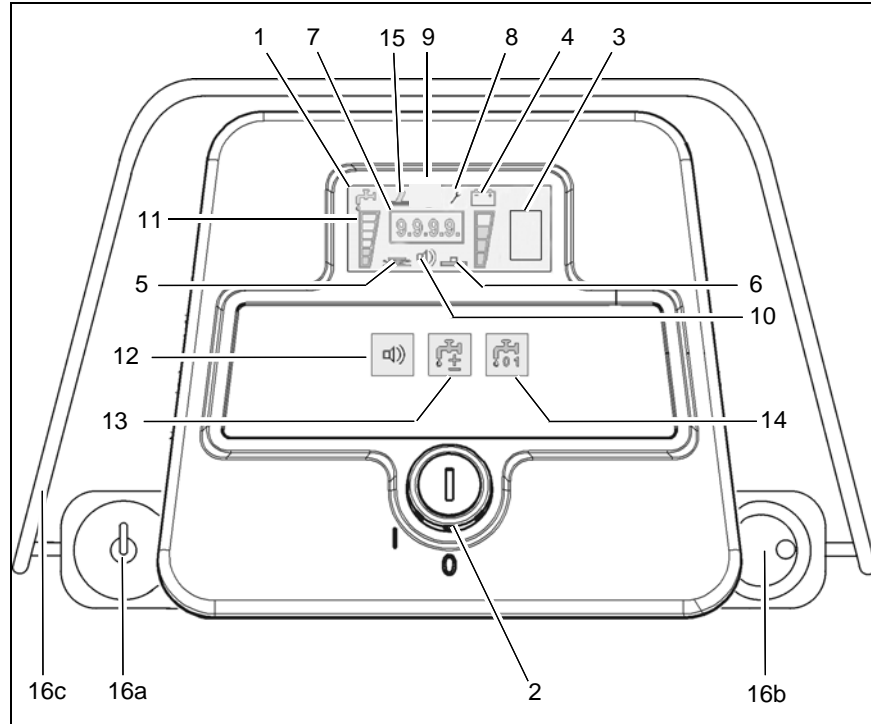

Fig.4
3. Switch on solution supply by means of tip-switch (Fig. 4/14).
4. Adjust solution amount by means of tip-switch (Fig. 4/13). Lower brush deck via pedal (Fig. 3/8). Solution supply and brush deck starts automatically.
5. Use the speed control knob (Fig. 4/16b) to adjust the work speed. Use the direction switch (Fig. 4/16a) to select forward or reverse. Pull the bail handle (Fig. 4/16c) to start moving.
Display (Fig. 4/1)
Battery charge indication (Fig. 4/3)
LDS indicator (Fig. 4/4)
Symbol brush drive (Fig. 4/5)
Symbol suction turbine drive (Fig. 4/6)
Hourmeter (Fig. 4/7)
Service indicator (Fig. 4/8)
free (Fig. 4/9)
(Fig. 4/10)
Solution dosage symbol (Fig. 4/11)
Silence Kit tip-switch (optional) (Fig. 4/12)
Solution dosage tip-switch (Fig. 4/13)
(Fig. 4/14)
free (Fig. 4/15)
Drive direction control with speed control knob/bail handle (Fig. 4/16)